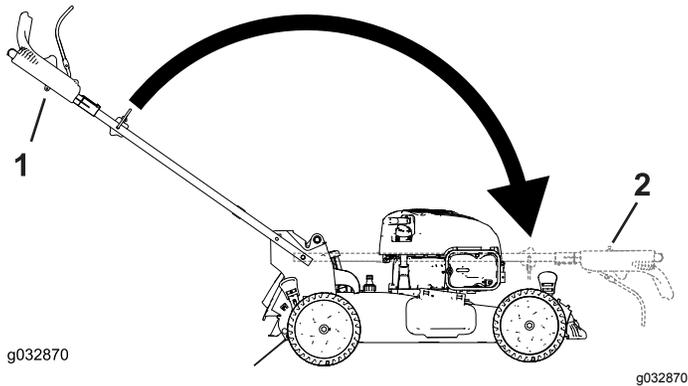

Figure 20
2. Fold the handle by rotating it forward (Figure 20).